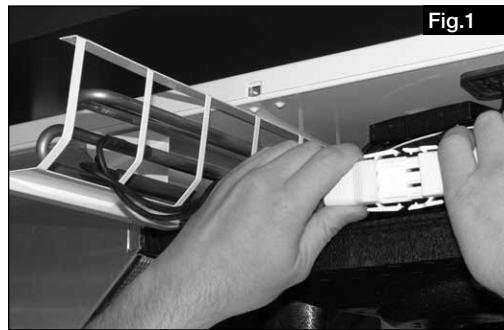
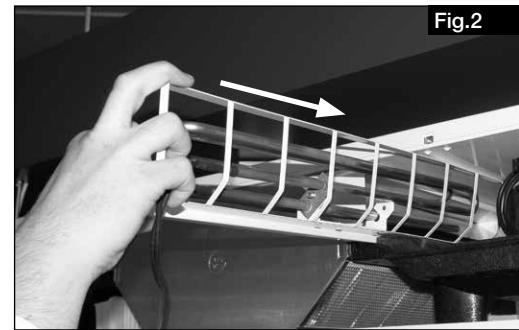

Fig.1
Fig.2
Connect the electrical connections to install the electrical preheater (accessories) (Fig.1). Then push the electrical preheater up to the stop in the unit (Fig.2) and screw in the earthing screws.
3. Remove heating element (Fig.2) and rotate 180°